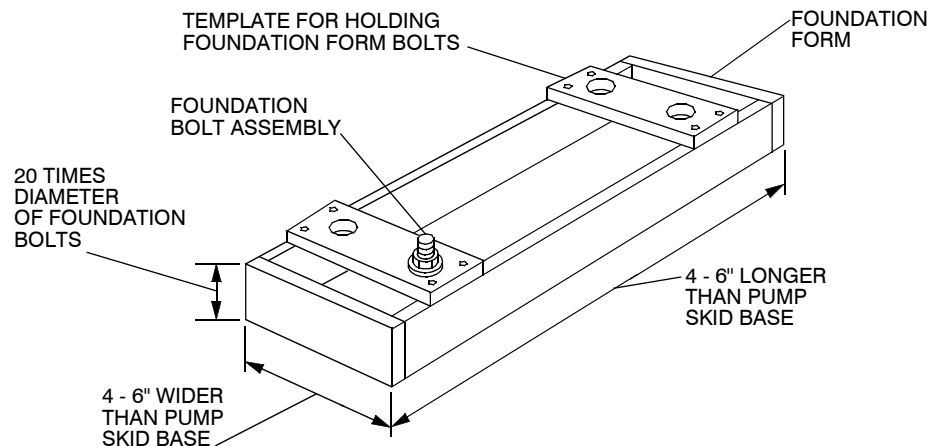

Figure 3-4. Typical Foundation Form
1. Construct a foundation form that is 4 to 6 inches longer and wider than the skid base. The foundation form height should be about twenty times the diameter of the foundation bolts. See Figure 3-4 for a typical foundation form.